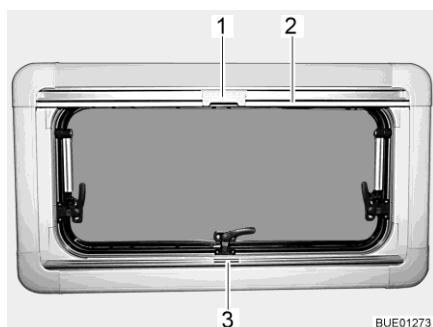

Fig. 93 Hinged window
- Grip the Roman shade in the centre of the holding bar (Fig. 93,3), pull it from the bottom to the top and then release it at the desired height. The Roman shade will stay at this height.
- Pull the insect screen down using the holding bar (Fig. 93,2), until it touches the holding bar of the Roman shade (Fig. 93,3).
- Clip the catch (Fig. 93,1) on the insect screen into the handle of the Roman shade.
- Push the catch (Fig. 93,1) on the insect screen inwards.
- Move the insect screen back slowly on the holding bar (Fig. 93,2).